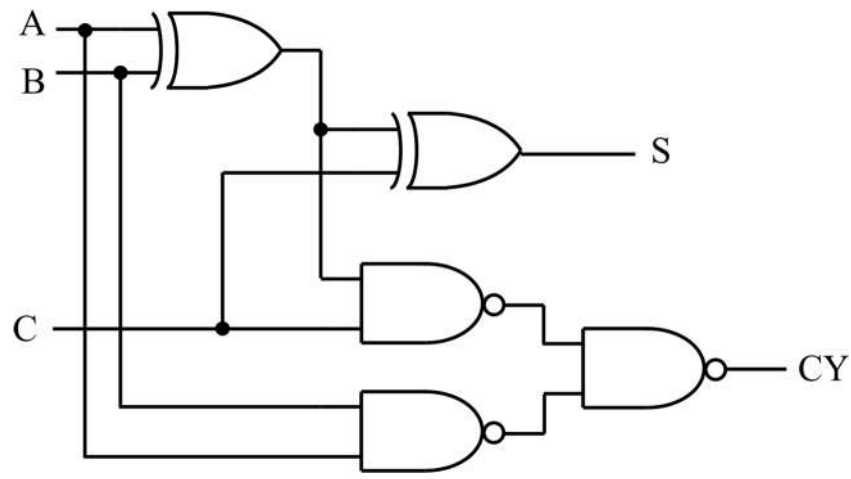

Figure 1: Full Adder Schematic.
Read through the tutorial to familiarize yourself with the steps you will be performing. **Construct a truth table for the circuit in Figure 1** of the tutorial and verify to yourself that it represents a full adder circuit.
- Q2.** Actually there is a slight difference between full adder inputs. What is the difference between the A, B, and C inputs shown in Figure 1 of the tutorial?
A logic diagram for a full adder is shown in Figure 1. You should convince yourself that functions S and CY do in fact implement the Sum and Carryout functions of a full adder. S is straightforward and is high (1) whenever there are an odd number of input lines high. CY is not quite as obvious but is high whenever A and B are high or C and one of A or B is high. This